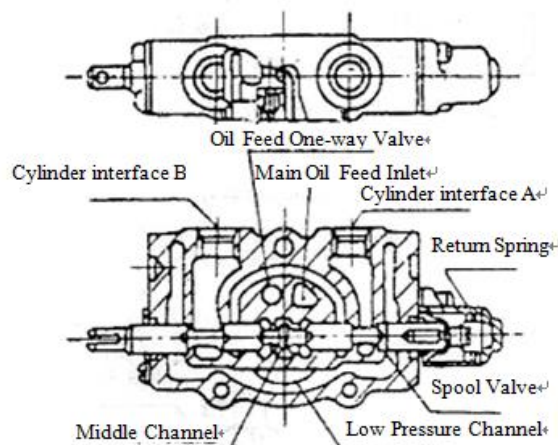

Fig 6-2
#### (1) Neutral Position (Fig 6-2)